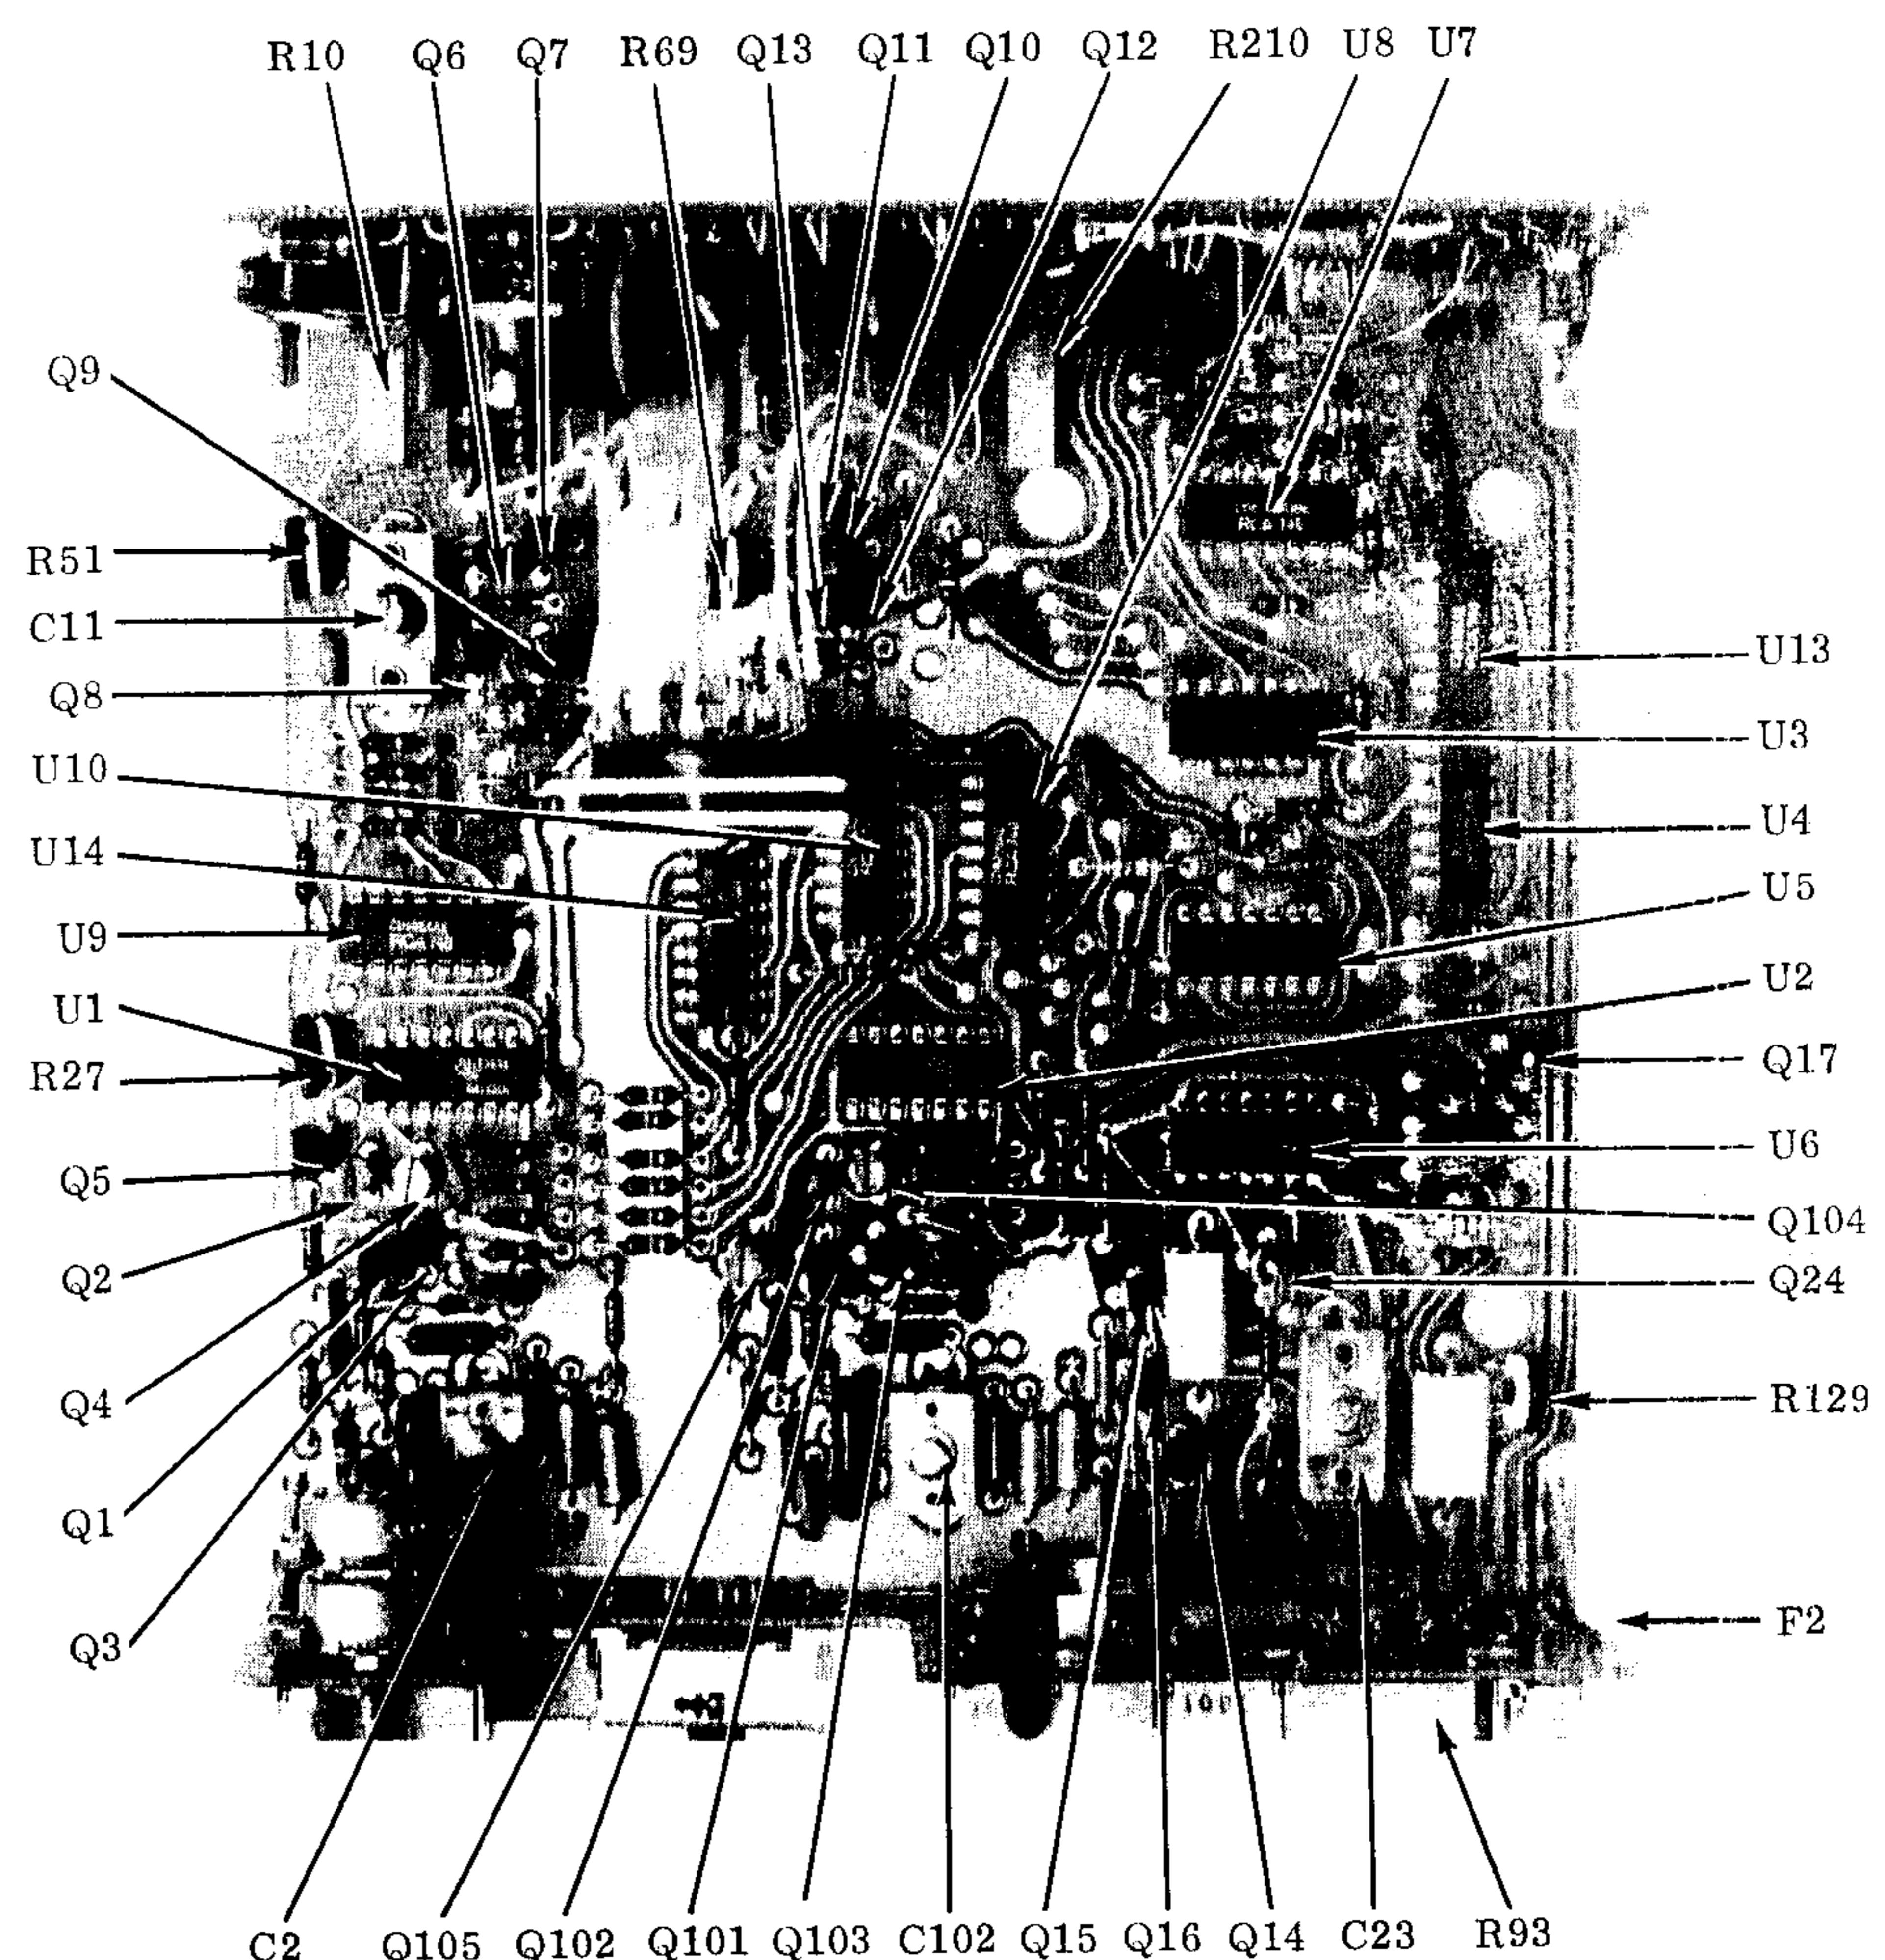

Figure 4-2. Component Location - Main Board
- Use internal trigger mode and AC vertical coupling. Set time/DIV to 5 μ s/DIV with time vernier in CAL (CW) position.
- Adjust R69 (figure 4-2) and horizontal position control so that trace is approximately 1/32 inch longer than five divisions of graticule in horizontal direction.
- Adjust R93 (figure 4-2) and horizontal position control for best coincidence of vertical lines of square wave trace with vertical lines of graticule.
- Adjust C23 (figure 4-2) and horizontal position control for best coincidence of vertical lines of square wave trace with vertical lines of graticule.
- a. Using AC vertical input coupling and internal triggered mode, connect calibrator output to CH2 vertical input of Miniscope. Set vertical V/DIV controls to .5V/DIV. Center trace vertically. Set vernier to CAL (CW).
- b. Adjust R51 (figure 4-2) so that trace amplitude is exactly two graticule divisions high.
- d. Repeat step 4-12b using R27 (figure 4-2).
- a. Using CH2 AC vertical input coupling and internal triggered mode, connect a 100 KHz square wave to vertical input. Set vertical V/DIV to .5V/DIV. Set vernier to CAL (CW). Set Horizontal (Time/DIV) switches to $5 \mu s$ /DIV.
- b. Adjust C11 (figure 4-2) until truest display of a square wave is obtained.
- b. Adjust C202 (figure 4-2) until the truest display of a square wave two divisions high is obtained.
- d. Repeat 4-14b using C2 (figure 4-2).